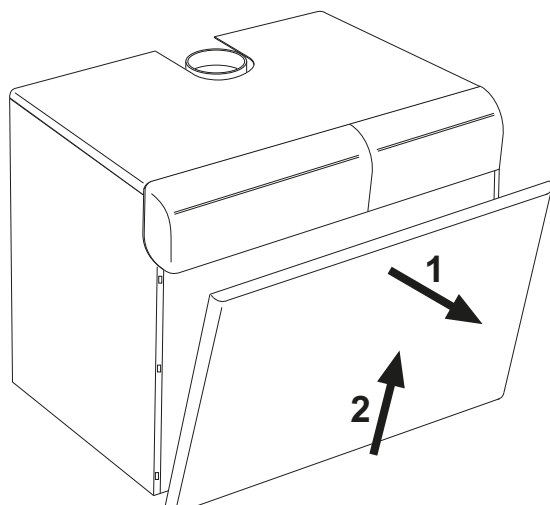

fig. 5 - Front panel opening
To open the boiler front panel, see the sequence in fig. 5.
- Remove the front panel of the boiler (fig. 5).